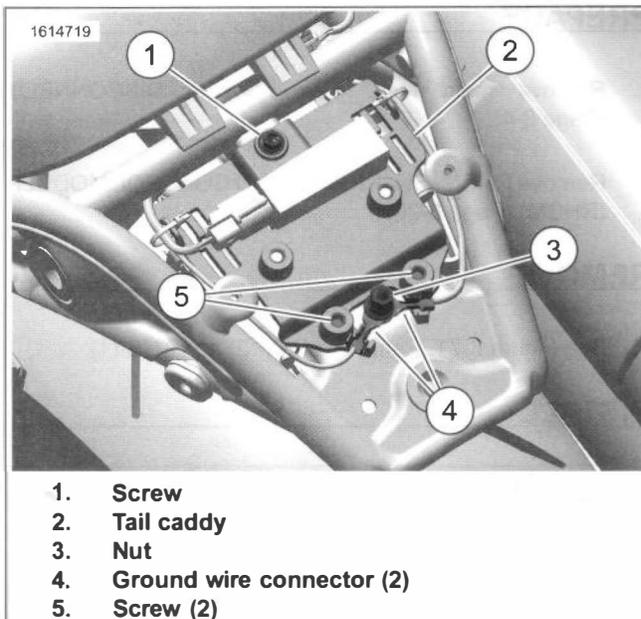
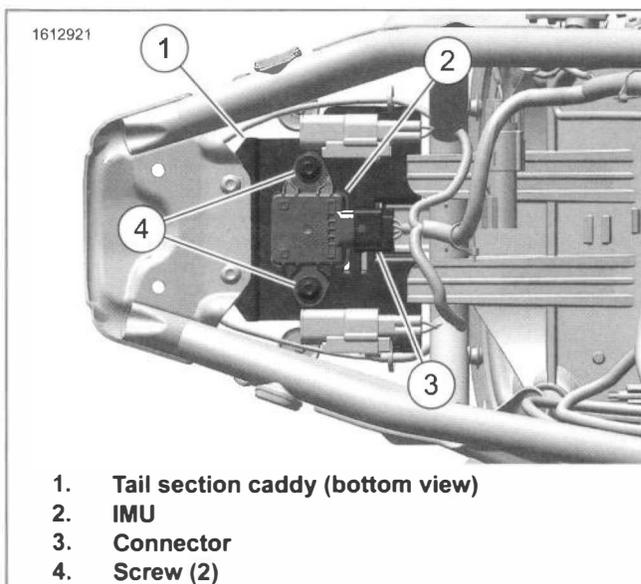

Figure 8-72. Tail Caddy
Figure 8-73. IMU (rear cover removed for clarity)
1. See Figure 8-72. Remove nut (3) and ground wire connectors (4).
2. Remove screw (1).
3. Remove screws (5) (accessible from underside of tail section).
4. Lift up tail caddy (2).
5. See Figure 8-73. Disconnect connector (3).
6. Remove screws (4) and IMU (2).
1. See Figure 8-73. Install IMU (2). Secure with screws (4). Tighten.
2. Connect connector (3).
3. See Figure 8-72. Place tail caddy (2) into position.
4. Install screws (5) from underside of tail section. Tighten.